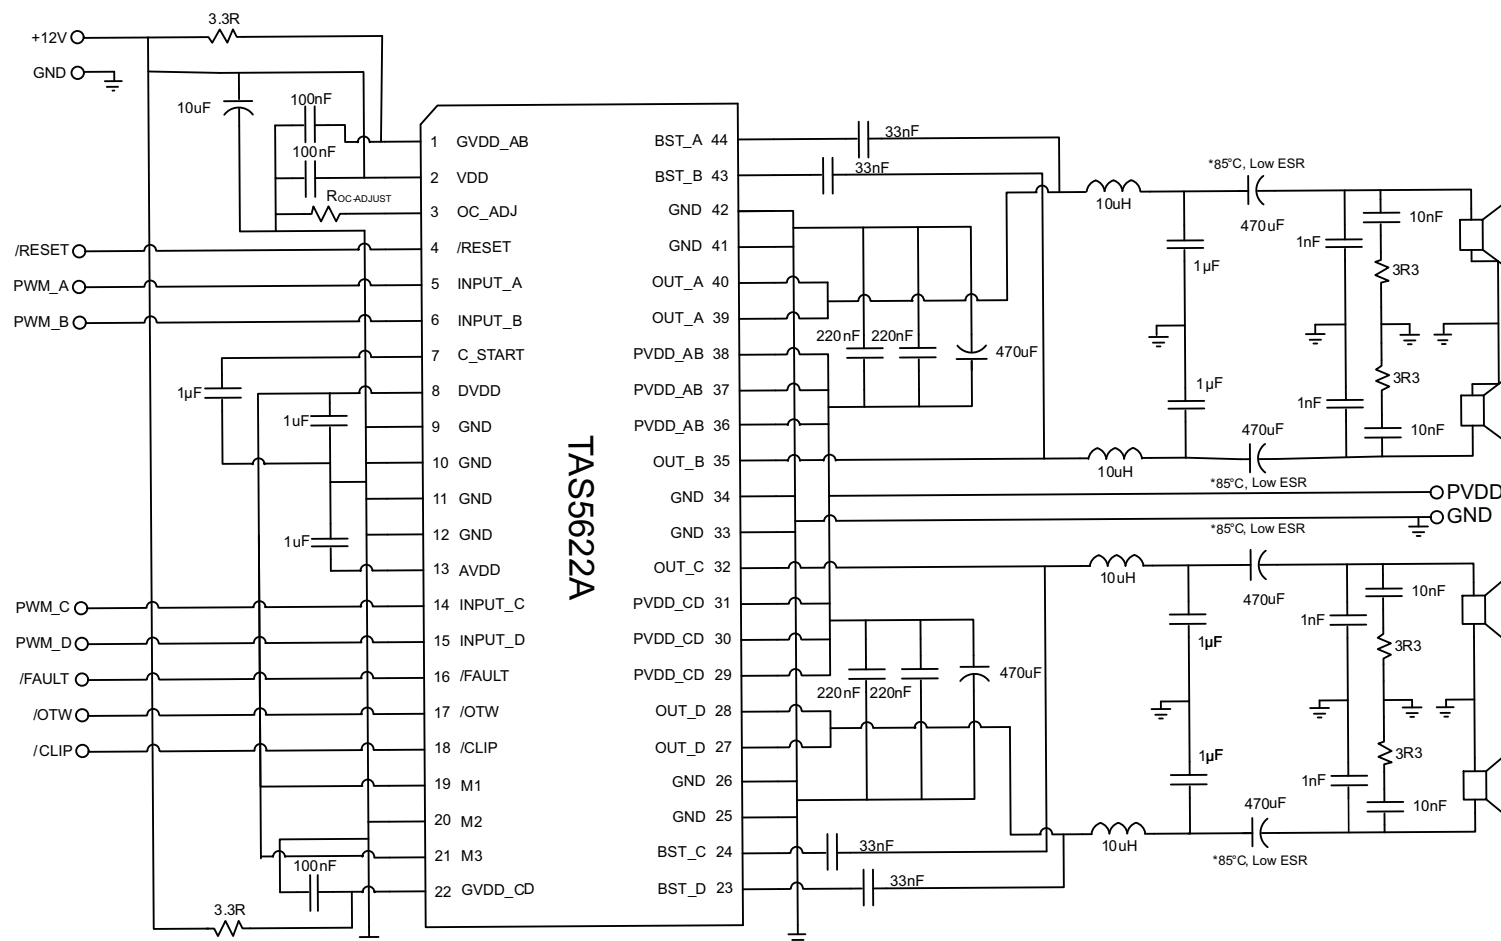

Figure 19. Typical (1N) SE Application
See Figure 19 for application schematic. In this application, four single-ended PWM inputs are used with AD modulation from the PWM modulator such as the TAS5558. AD modulation scheme is defined as PWM(+) is opposite polarity from PWM(-). The single-ended (SE) output configuration is often used to drive 4 independent channels in one TAS5622A device.
- Pins 27, 28, 32, 35, 39, 40 - Output pins from half-bridges A, B, C, and D. Connect appropriate bootstrap capacitors and differential LC filter as shown in Figure 19.
- Pins 29, 30, 31, 36, 37, 38 - Power supply pins to half-bridges A, B, C, and D. A and B form a full-bridge and C and D form another full-bridge. A 470-μF bulk capacitor is recommended for each full-bridge power pins. Two 0.22-μF decoupling capacitors are placed on each full-bridge power pins. See Figure 19 for details.